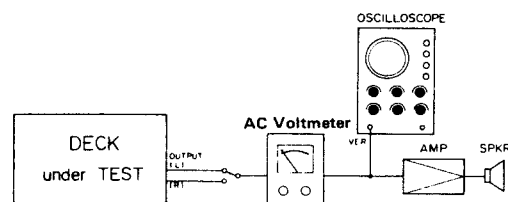

Fig. 6-5 Connection
1. Connect the deck and the test equipments as shown in Fig. 6-5 on page 19.